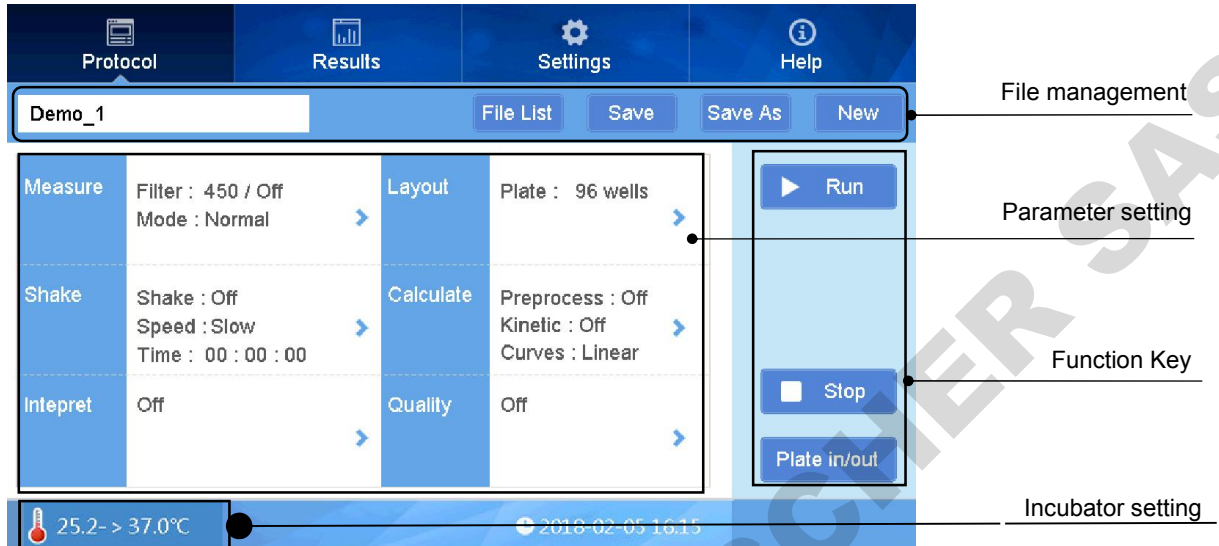

fig 2
- The name of current protocol file:  (Fig 2),